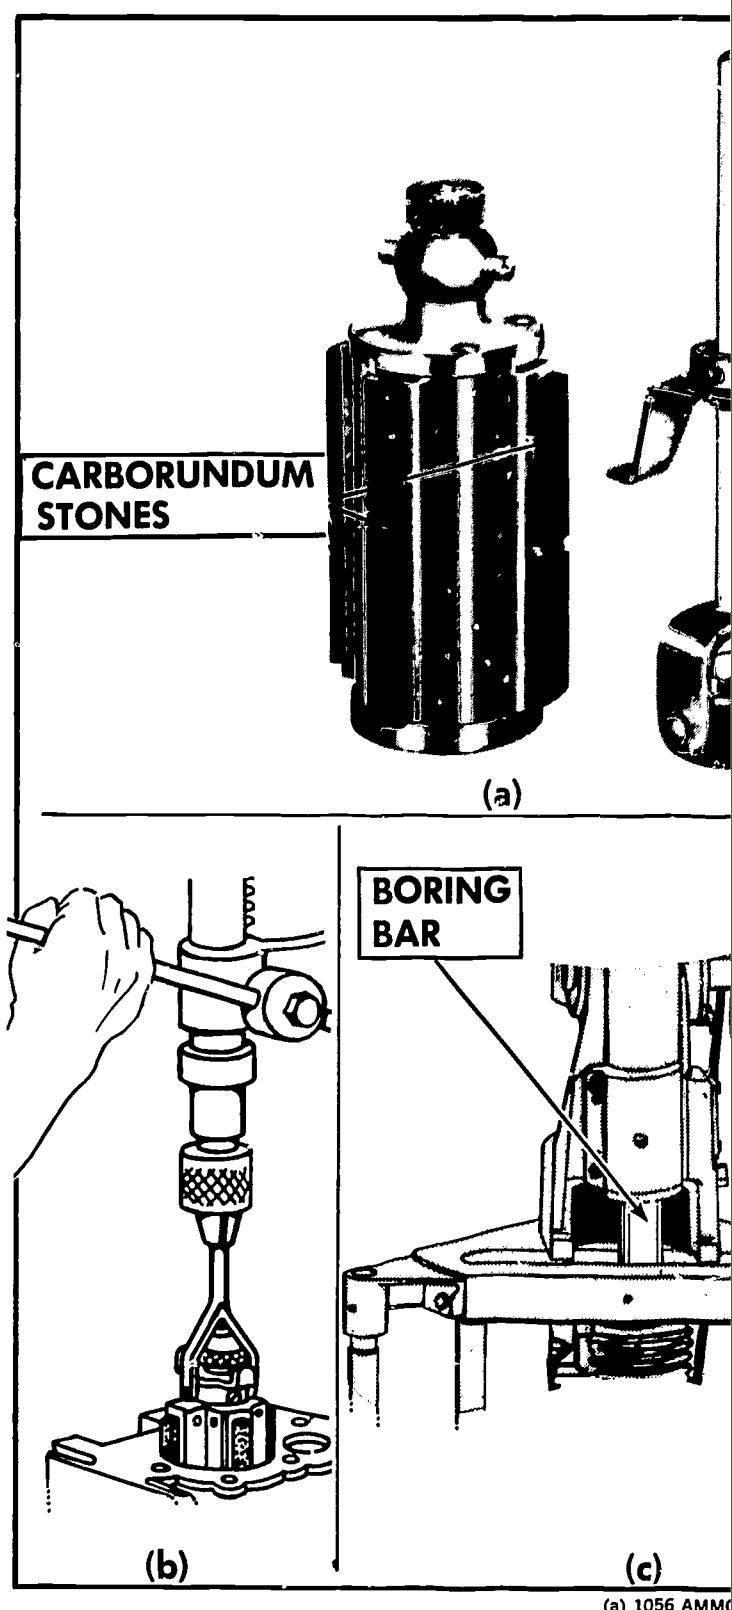

FIGURE 274. Two methods for reboring cylinder follows: (a and b) hone with carborundum st (c) boring bar with a cutting tool.
2. Select the proper boring tools (Figure 274).